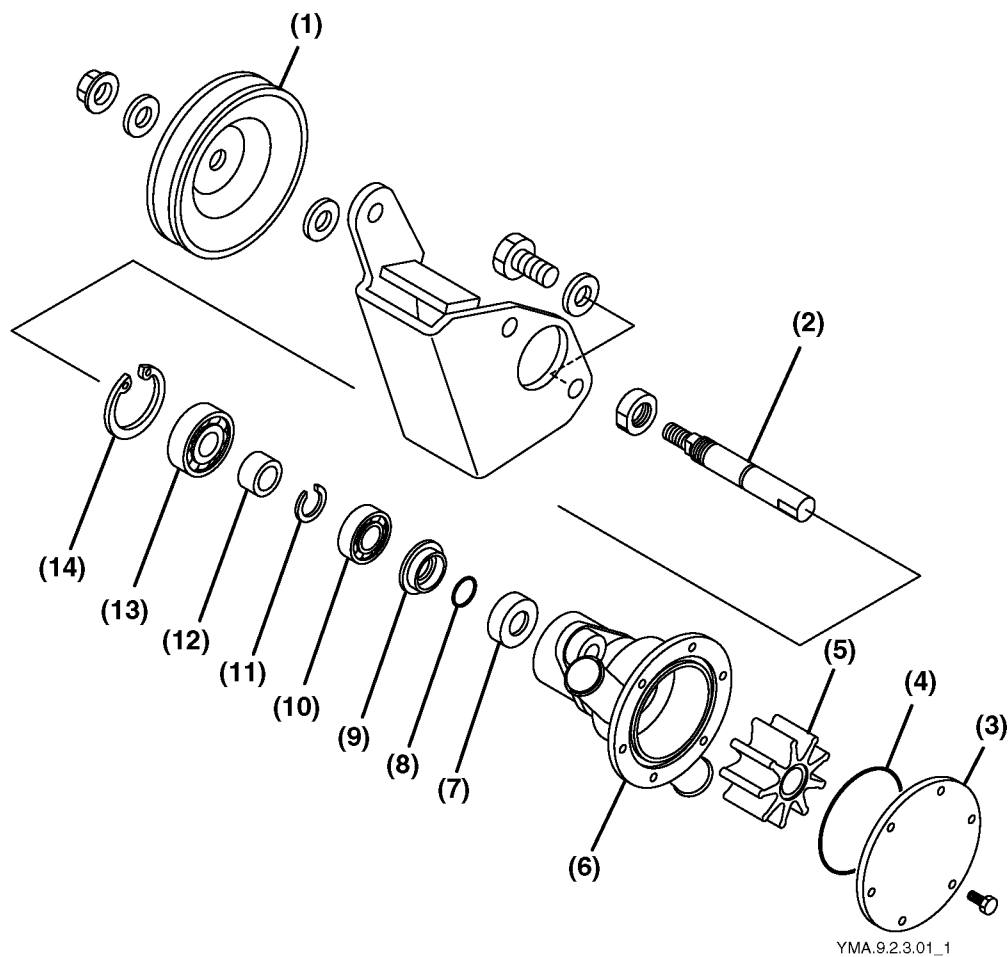

Figure 7-4
3. Remove the seawater pump cover (Figure 7-4, (3)).
4. Take the O-ring (Figure 7-4, (4)) and impeller (Figure 7-4, (5)) out of the pump.
5. Remove the oil seal (Figure 7-4, (7)) and the pump shaft (Figure 7-4, (2)) if necessary.
1. Inspect the rubber impeller (Figure 7-4, (5)), checking for splitting around the outside edges, and other damage or cracks. See *Checking or Replacing the Seawater Pump Impeller* on page 4-24.
3. Inspect the oil seal (Figure 7-4, (7)).
5. Make sure the ball bearings (Figure 7-4, (10) and (13)) rotate smoothly.
1. Coat the shaft (Figure 7-4, (2)) with grease.
2. Assemble the pump shaft, ball bearings (Figure 7-4, (10), and (13)), retaining ring (Figure 7-4, (11)), plate (Figure 7-4, (9)) and O-ring (Figure 7-4, (8)).
3. Install the seal (Figure 7-4, (7)) into the pump body (Figure 7-4, (6)).
5. Install the retaining ring (Figure 7-4, (14)).
6. Install the impeller (Figure 7-4, (5)) on the pump shaft.
7. Install a new O-ring (Figure 7-4, (4)), cover (Figure 7-4, (3)) and pulley (Figure 7-4, (1)).